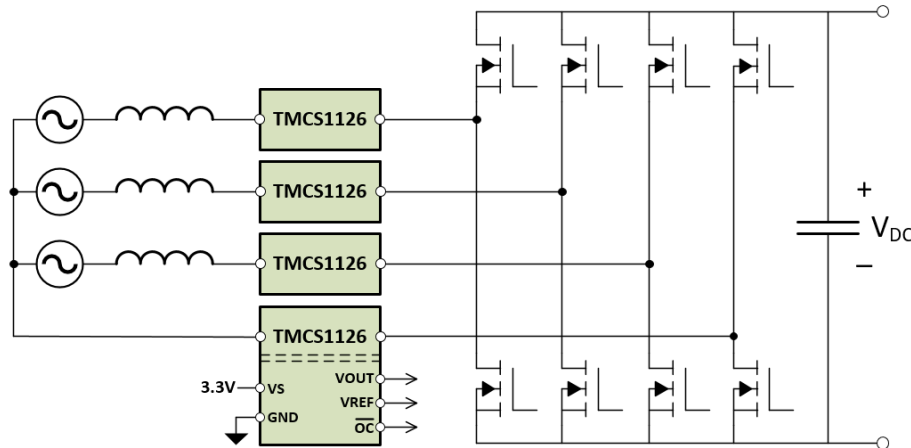

Figure 9-2. AC to DC Converter Current Sensing
In many applications, power must be converted from AC sources for use in DC circuitry. Some type of controlled power factor correction (PFC) stage is typically needed to improve power transfer efficiency. Faster and faster power switches are being used in modern PFC stages to reduce overall size and to improve power transfer efficiency. Often, the PFC stage of AC to DC converters is connected directly to AC power grids. A primary challenge to sensing in PFC stages is that the current sensor is subjected to large voltage spikes coming from the high-voltage (HV) power grid along with large transients coming from high speed power switches during charge transfer. Inherent isolation in the TMCS1126 construction helps overcome these challenges by providing high levels of isolation between the HV current sensing nodes and low-voltage control circuitry, with high common-mode transient immunity (CMTI). Figure 9-2 shows the use of the TMCS1126 measuring phase currents in a common AC to DC converter stage.